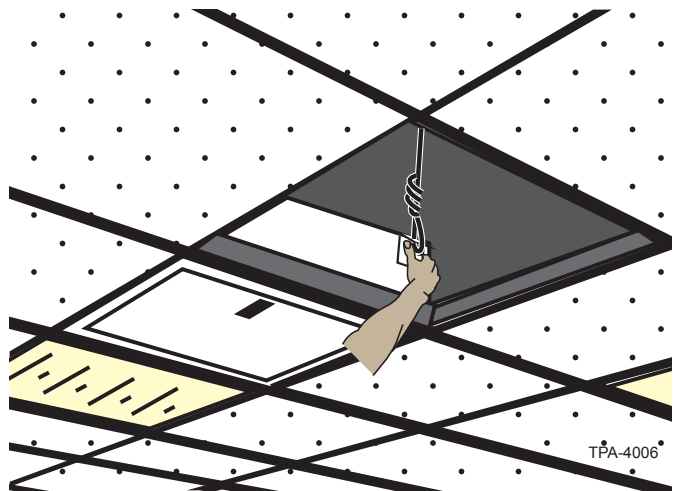

Figure 12
Step 8: Pass the supporting tie wires or threaded rods through the mounting brackets (Figure 12). If using wire, simply pass the wire through the hole in the mounting bracket, loop back up, and make several wraps around the wire.